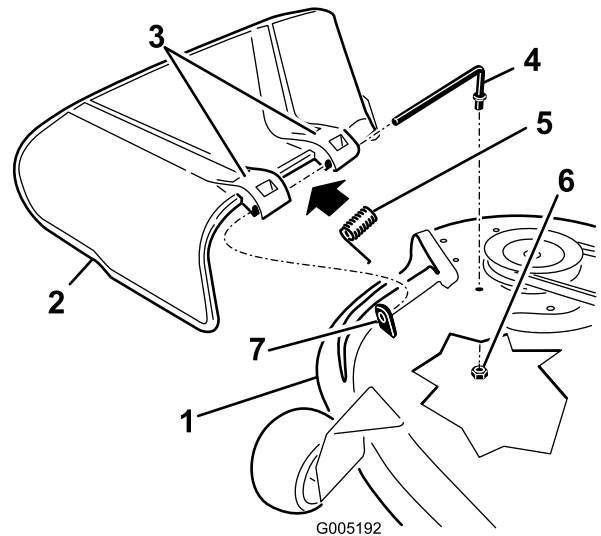

Figure 69
1. Remove the nut (3/8 inch) from the rod under the mower (Figure 69).
2. Slide the rod out of the short standoff, the spring, and the grass deflector (Figure 69).
4. Replace the grass deflector (Figure 69).
7. Slide rod through the second grass-deflector bracket (Figure 69).
9. Secure the rear end of the rod into the mower with a nut (3/8 inch) as shown in Figure 69.